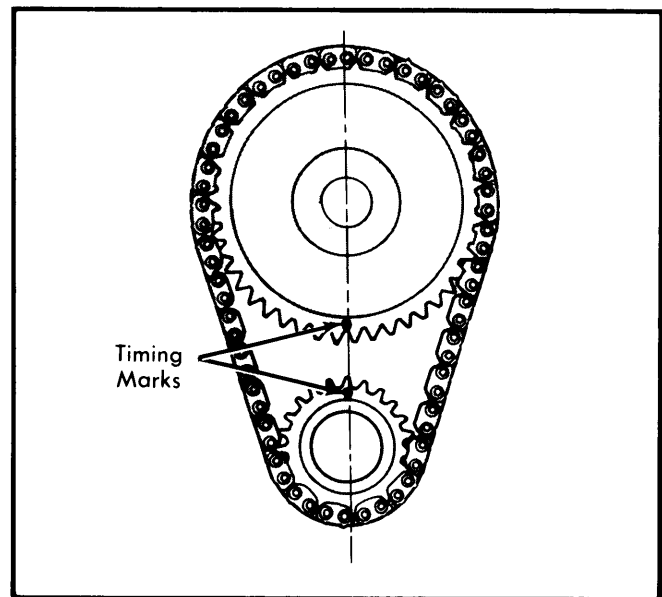

Fig. 11 Timing Chain Sprocket Alignment
Removal & Installation — 1) Crank engine until timing marks are positioned properly. See Fig. 11. Remove camshaft sprocket cap screw, washers and fuel pump eccentric. Slide both sprockets and timing chain forward and remove them as an assembly.
2) To install, position timing chain on sprockets with timing marks aligned. See Fig. 11. Slide sprockets and timing chain onto engine as an assembly. Install fuel pump eccentric, washers and sprocket cap screw. Tighten bolt and oil timing chain.